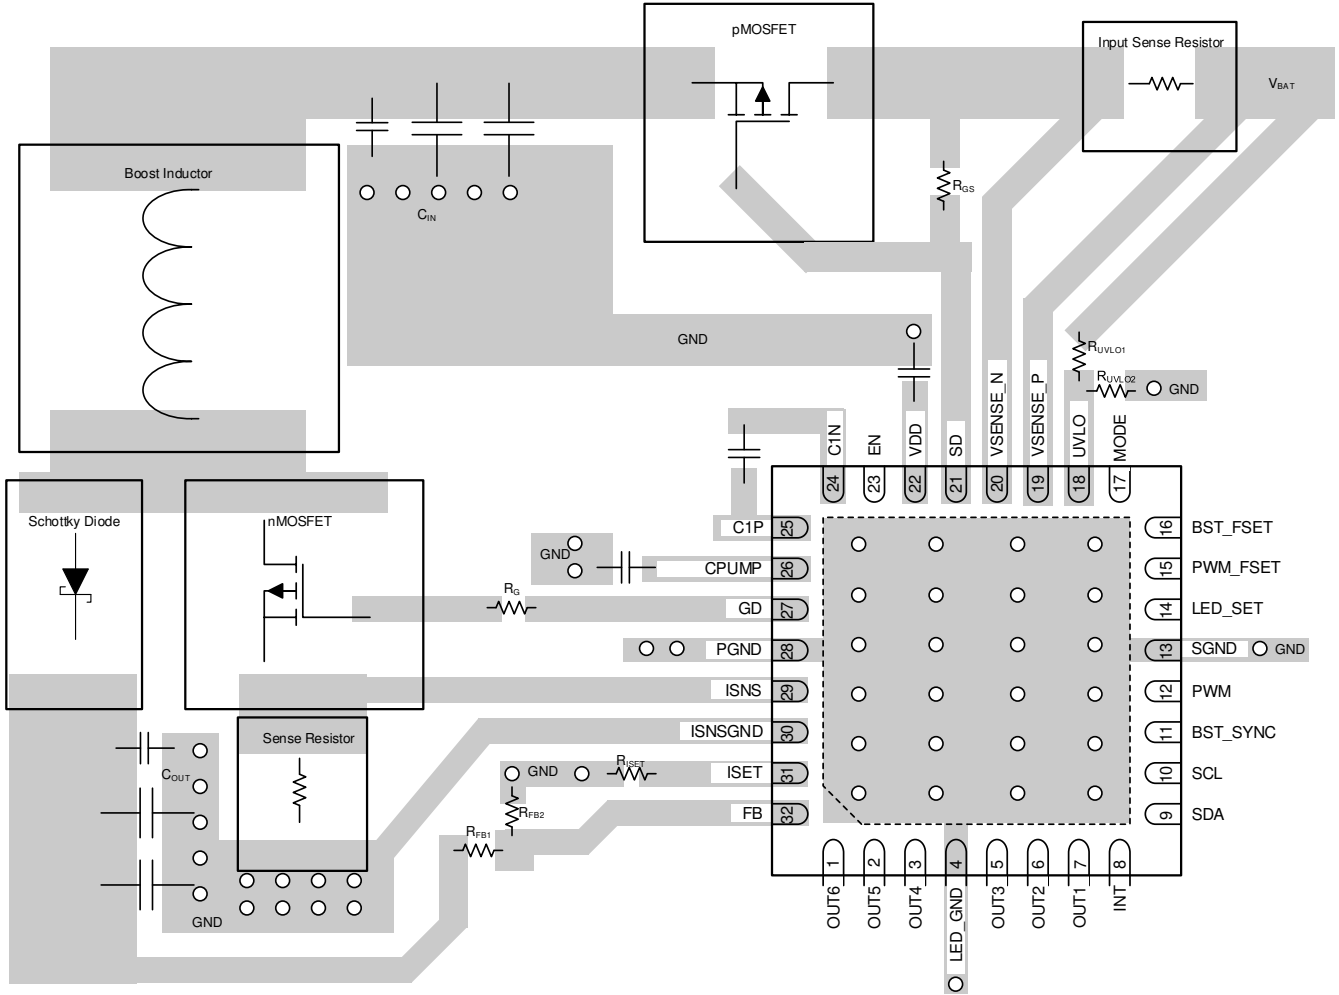

图 7-8. LP8866S-Q1 Layout Guidelines
**图 7-8** shows a layout recommendation for the LP8866S-Q1 used to illustrate the principles of good layout. This layout can be adapted to the actual application layout if and where possible. It is important that all boost components are close to each other and to the chip; the high-current traces must be wide enough. VDD must be as noise-free as possible. Place a V_{DD} bypass capacitor near the VDD and GND pins. A charge-pump capacitor, boost input capacitors, and boost output capacitors must have closest VIAs to GND. Place the charge-pump capacitors close to the device. The main points to guide the PCB layout design: